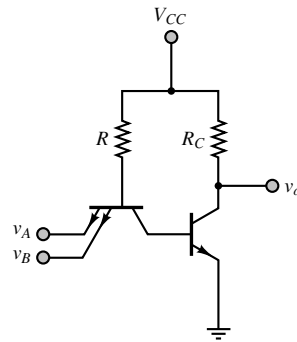

Figure P10.49
10.49 The basic circuit of a TTL gate is shown in the circuit of Figure P10.49. Determine the logic function performed by this circuit.